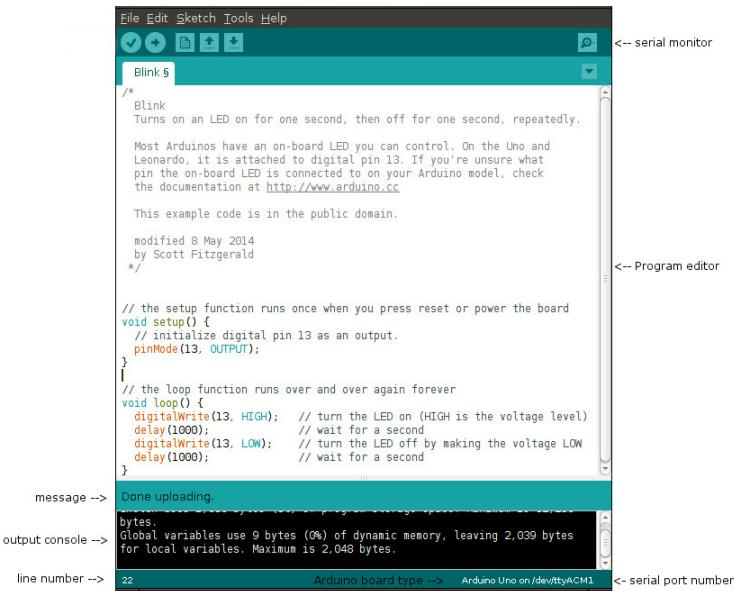

Figure 3.5: Arduino IDE
The Arduino development environment, as shown in Fig. 3.5, consists of a text editor for writing code, a message area, a
6. Serial Monitor: Opens the serial port window - the location of this is shown in the top right-hand corner of Fig. 3.5
expect a success message at the bottom of Arduino IDE, as shown in Fig. 3.5.